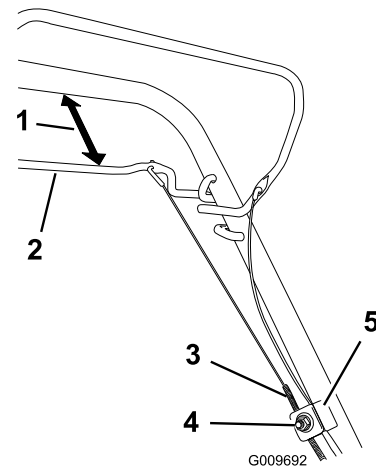

Figure 39
1. Loosen the cable support nut (Figure 39).
2. Hold the self-propel bail 1 to 1-1/2 inches (25 to 38 mm) from the handle (Figure 39).
3. Pull down the cable jacket (toward the mower) until there is no slack in the cable (Figure 39).